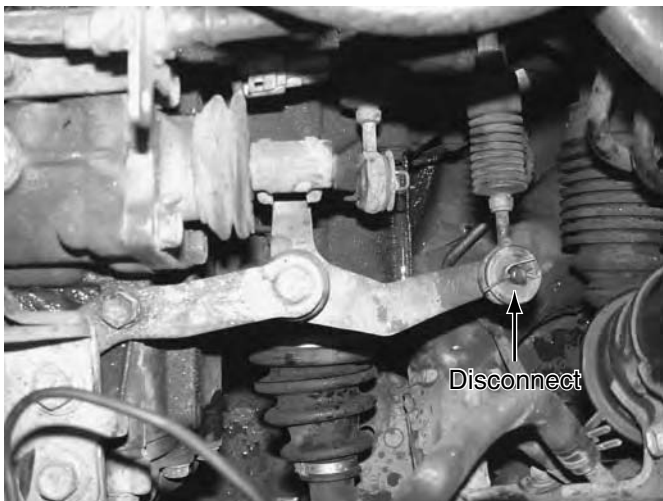

FIGURE 4.48 Disconnect the front-wheel drive transmission shift cable or linkage. (Courtesy of Tim Gilles)
- Disconnect the transmission shift linkage (**Figure 4.48**).